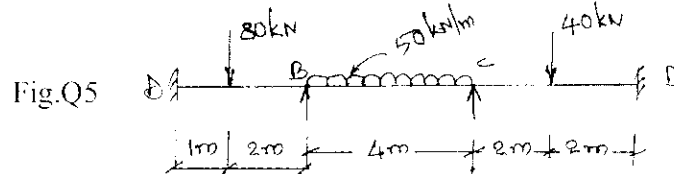

Fig.Q5
- 5 Analyse the continuous beam shown in fig. Q5 by Kani's method. Draw S.F.D and B.M.D. (20 Marks)